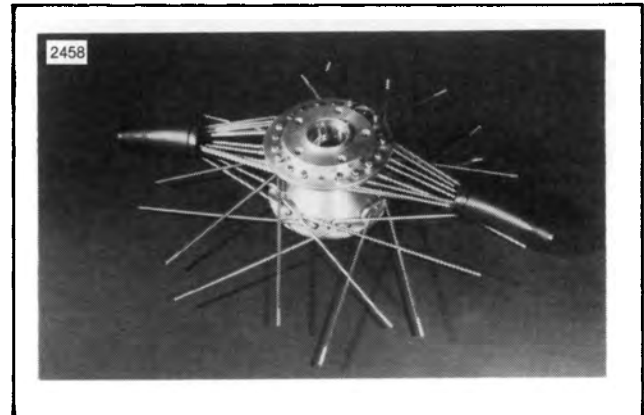

Figure 2-17. Bundling Top Spokes
4. See Figure 2-17. With all forty spokes inserted in hub, group all spokes on top flange into two bundles. Secure each group with throttle grips or tape to keep the spokes together.
3. See Figure 2-17. With all forty spokes inserted in hub, group all spokes on top flange into two bundles. Secure each group with throttle grips or tape to keep the spokes together.